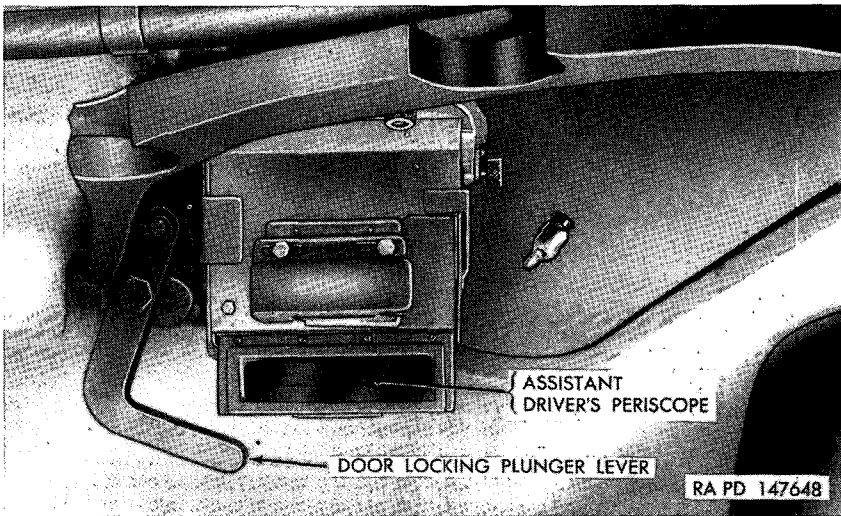

Figure 58. Assistant driver's periscope—installed view.
a. DESCRIPTION. The azimuth indicator T24 (fig. 58) is mounted in the right-forward section of the turret. It is used for indirect fire operation in conjunction with elevation quadrant T21. The azimuth indicator dial (fig. 59) contains three scales: a 100-mil (inner) scale, a 1-mil (center) scale, and a gunner's aid dial on the perimeter of the dial face. The inner scale is graduated in 100-mil intervals and
a. **INSTRUMENT LIGHT D78454** (fig. 58). Instrument light D78454 is a battery assembly supplying power for the lamp in azimuth indicator T24 (par. 63c). A toggle switch on top of the instrument light is used to turn the light on or off. A guard protects the switch from being turned on or off accidentally.